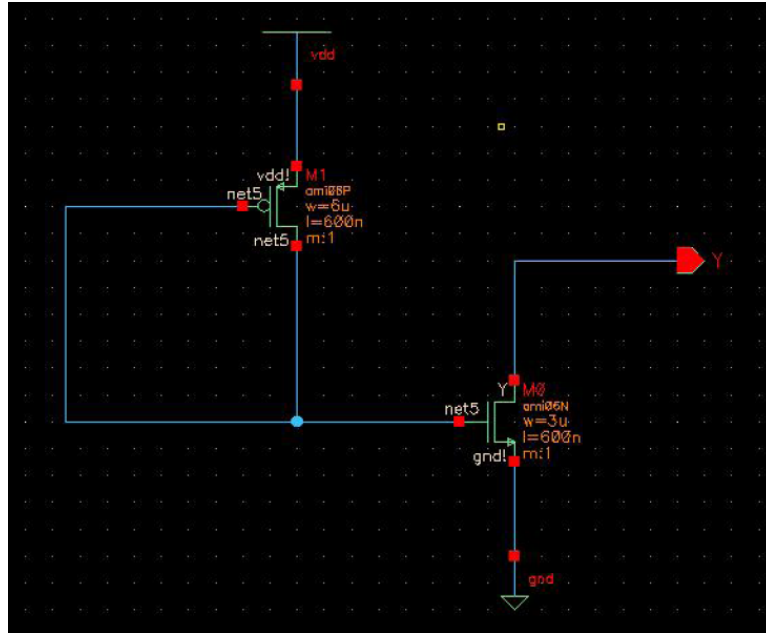

Figure 2: schematic of the tielo cell
- TIELO – A cell that provides a connection to GND. This is the dual to the TIEHI cell. The schematic for this cell is shown in Figure 2.